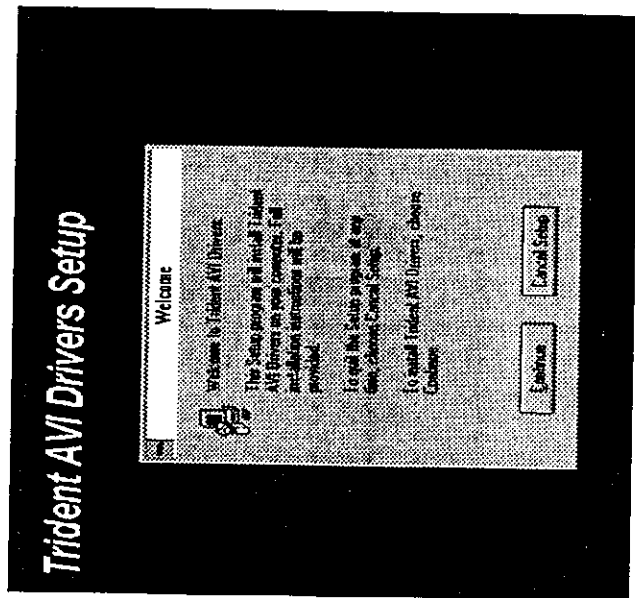

Figure 3-15.
5. The Trident AVI Drivers Setup screen will appear. PRESS "Continue" to start installation (See Figure 3-15).